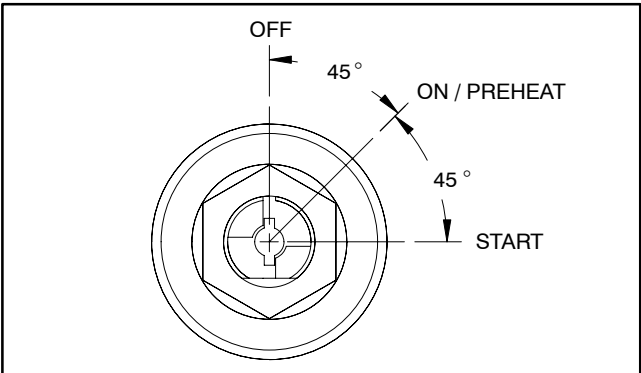
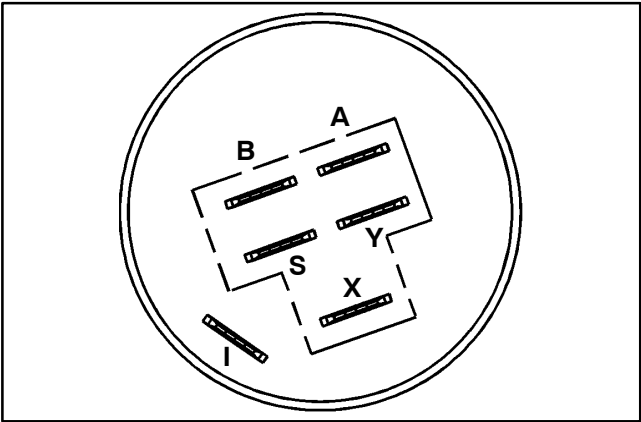

Figure 7
Figure 8
The ignition (key) switch has three (3) positions: OFF, ON/ PREHEAT and START (Fig. 7). The terminals are marked as shown in Figure 8. The circuit wiring of the ignition switch is shown in the chart below. With the use of a multimeter (ohms setting), the switch functions may be tested to determine whether continuity exists between the various terminals for each position. Verify continuity between switch terminals.